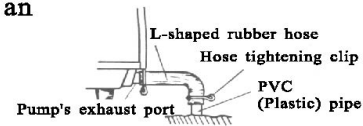

Figure 8
- II) Secure place of connection with a hose tightening clip (Figure 8).